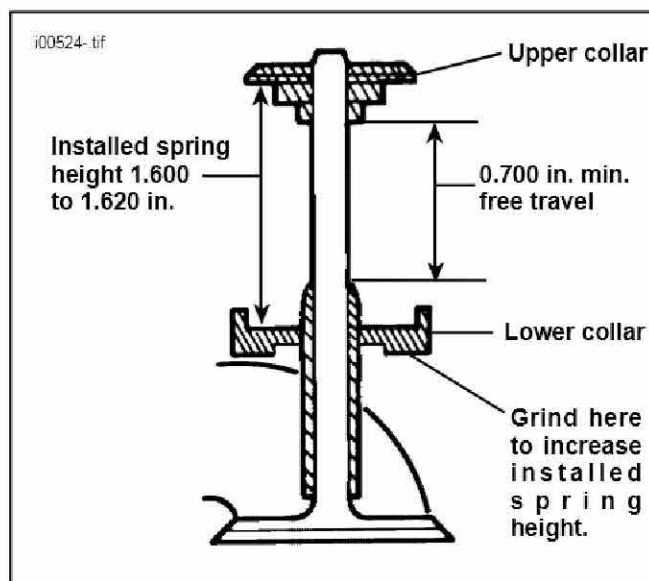

Figure 1. Valve Free Travel Check and Installed Valve Spring Height
4. See Figure 1. Assemble each valve in the cylinder head with the upper titanium valve spring collars and keepers from this kit in place without valve springs. Check valve movement for free travel. Free travel is the distance the valve can move off the valve seat until the underside of the upper valve spring collar strikes the upper end of the valve guide. Measure the free travel of the four valves and record the measurements.
11. If the installed spring height or the distance between collars is less than 1.600 in., remove lower collar and grind the surface shown in Figure 1 to obtain the 1.600 to 1.620 in. dimension.